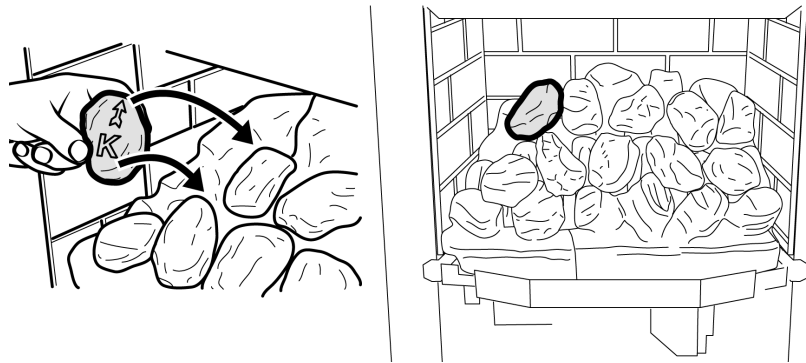

Figure 16. Second row "Coal K"
20. Hold coal 'K' upright with the arrow pointing to the top. Locate coal 'K' as shown in figure 16